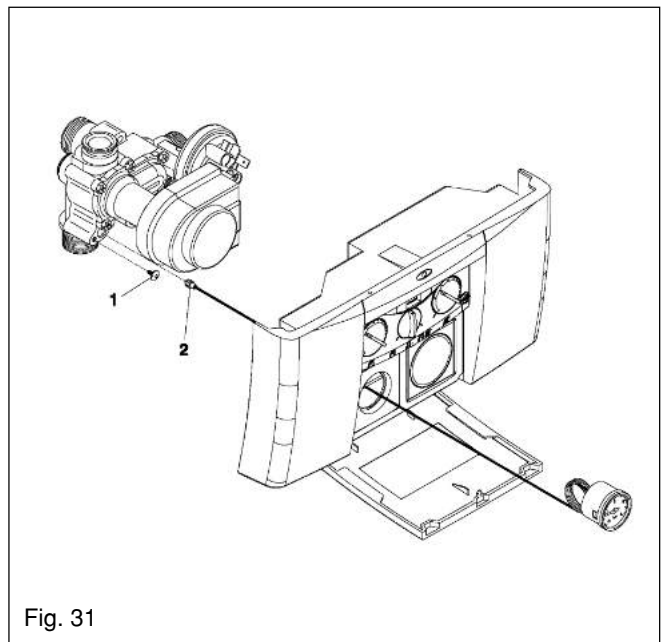

Fig. 31
6.9 PRESSURE GAUGE (see fig. 31)